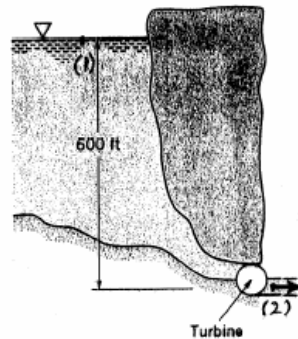

FIGURE P5.108
5.108 The hydroelectric turbine shown in Fig. P5.108 passes 8 million gal/min across a head of 600 ft. What is the maximum amount of power output possible? Why will the actual amount be less?